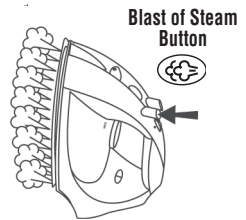

FIGURE 8
3. Hold the Iron upright so that the Soleplate is 7-15 inches (18-38 cm) away from the garment or material. Press the Blast of Steam Button once, then release (see FIGURE 8). It may be necessary to press the Blast of Steam Button 2-3 times successively to release the initial burst. **DO NOT HOLD THE BLAST OF STEAM BUTTON DOWN.**